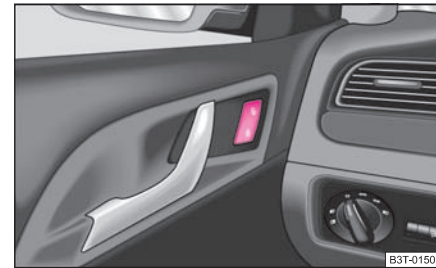

Fig. 26 Central locking switch
- Press on the bottom part of the button ⇒ fig. 26. The symbol  in the button comes on.
- Press on the top part of the button ⇒ fig. 26. The symbol  goes out in the button.